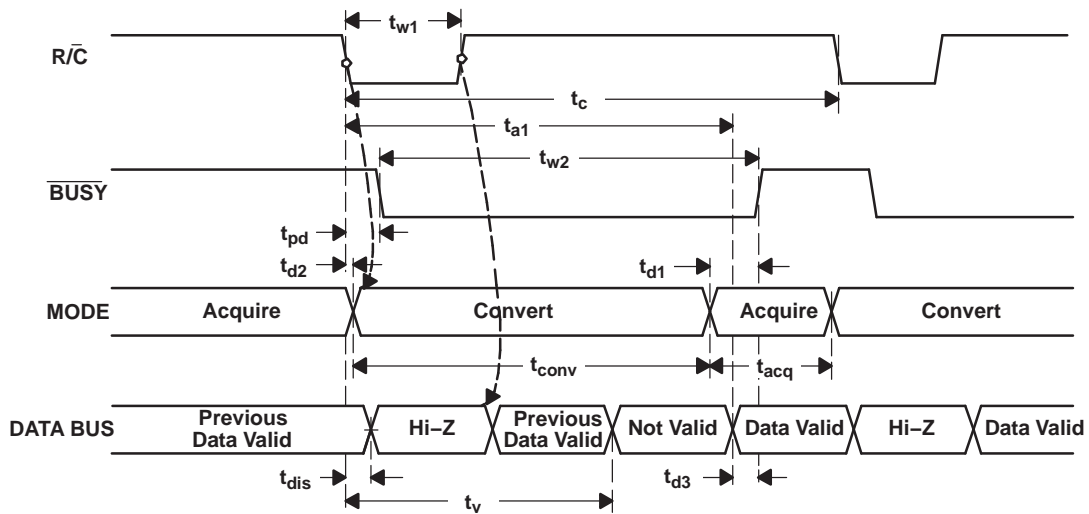
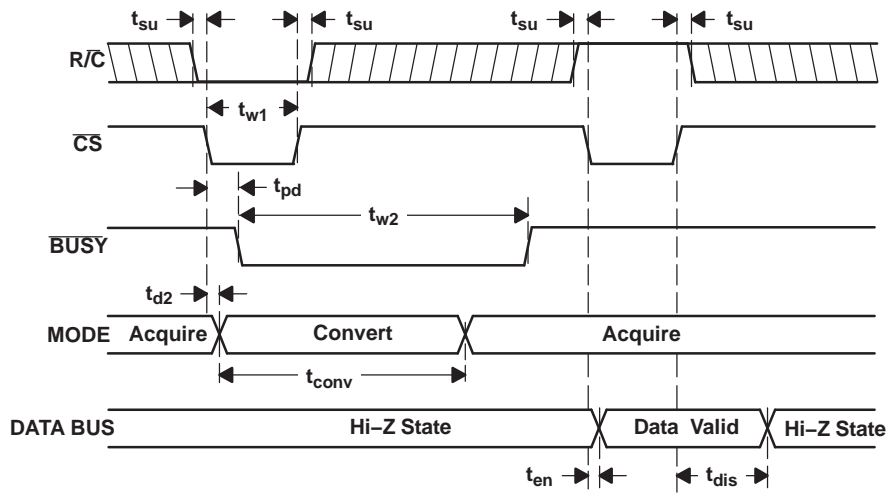
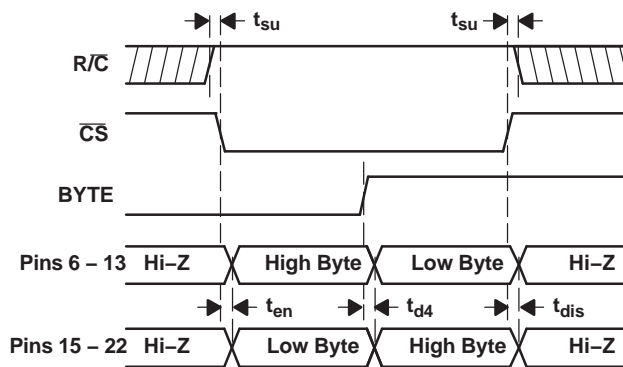

Figure 23. Conversion Timing with Outputs Enabled after Conversion (\bar{CS} Tied Low)
Figure 24. Using \bar{CS} to Control Conversion and Read Timing
Figure 25. Using \bar{CS} and $BYTE$ to Control Data Bus
The ADS8505 begins tracking the input signal at the end of the conversion. Allowing 4 μ s between convert commands assures accurate acquisition of a new signal. Refer to Table 1 for a summary of \overline{CS} , R/\overline{C} , and \overline{BUSY} states and Figure 23 through Figure 25 for the timing diagrams.
(1) See Figure 23 and Figure 24 for constraints on data valid from conversion $n-1$.
After conversion *n* is completed and the output registers have been updated, BUSY (pin 26) goes high. Valid data from conversion *n* is available on D15-D0 (pins 6-13 and 15-22). BUSY going high can be used to latch the data. Refer to Table 3, Figure 23, Figure 24, and Figure 25 for timing specifications.
After conversion *n* has been initiated, valid data from conversion *n-1* can be read and is valid up to *t*₂ (2.2 μs typ) after the start of conversion *n*. Do not attempt to read data from *t*₂ (2.2 μs typ) after the start of conversion *n* until BUSY (pin 26) goes high; this may result in reading invalid data. Refer to Table 3, Figure 23, Figure 24, and Figure 25 for timing specifications.
The number of control lines can be reduced by tying \overline{CS} low while using the falling edge of R/\overline{C} to initiate conversions and the rising edge of R/\overline{C} to activate the output mode of the converter. See Figure 23.